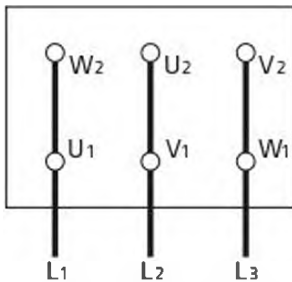

Figure 10a.  $\Delta$  - connection
- The mains connection on the terminal box depends on the nominal power of the motor, the power supply and the type of connection. The necessary connection of the bridges in the terminal box is shown in the following (*Table 2 ve Figure 10a, 10b, 10c*).